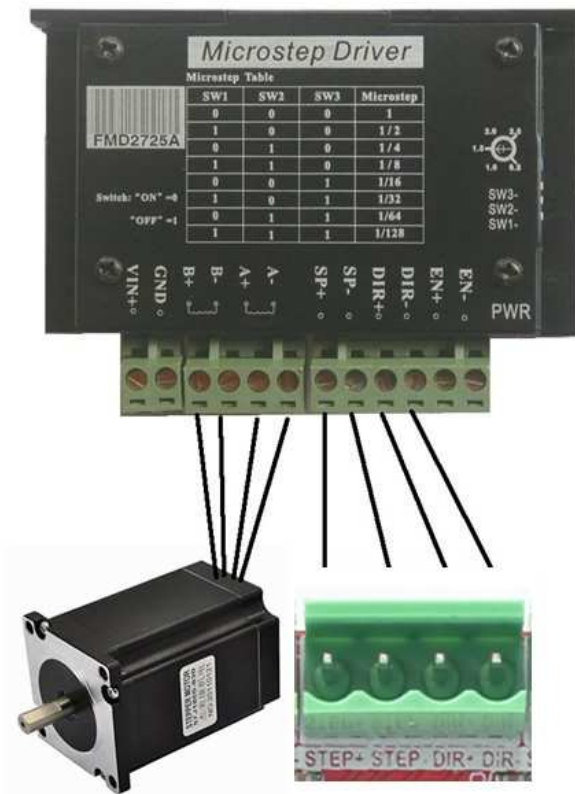

Figure 2-6 Stepper motor driver connection method
F) 5-axis stepper motor control signal output, defined as CK+\CK-\DIR+\DIR-. There are positive pulse, negative pulse, positive direction, negative direction. These port are common positive connection. Therefore, on the board of CK + and DIR + are linked together to 5V. So this board does not support the common negative connection. Wiring method refer to Figure 2-6. This card doesn't have EN signal, Most drives on sale should not connected to the EN signal. It is defined as X\Y\Z\A\B channel from left to right, see as Figure 2-6.